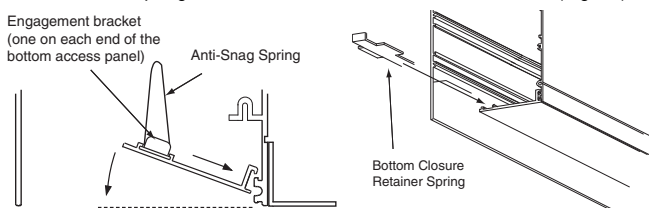

Figure 11
- ① Insert anti-slug springs into extrusion closest to edge of bottom closure panel.
- ② Insert retainer springs into same extrusion, on each end.
- ③ Install bottom closure panel (see Fig. 11).
- ④ Slide retainer springs into slots on bottom closure end brackets (Fig. 11).